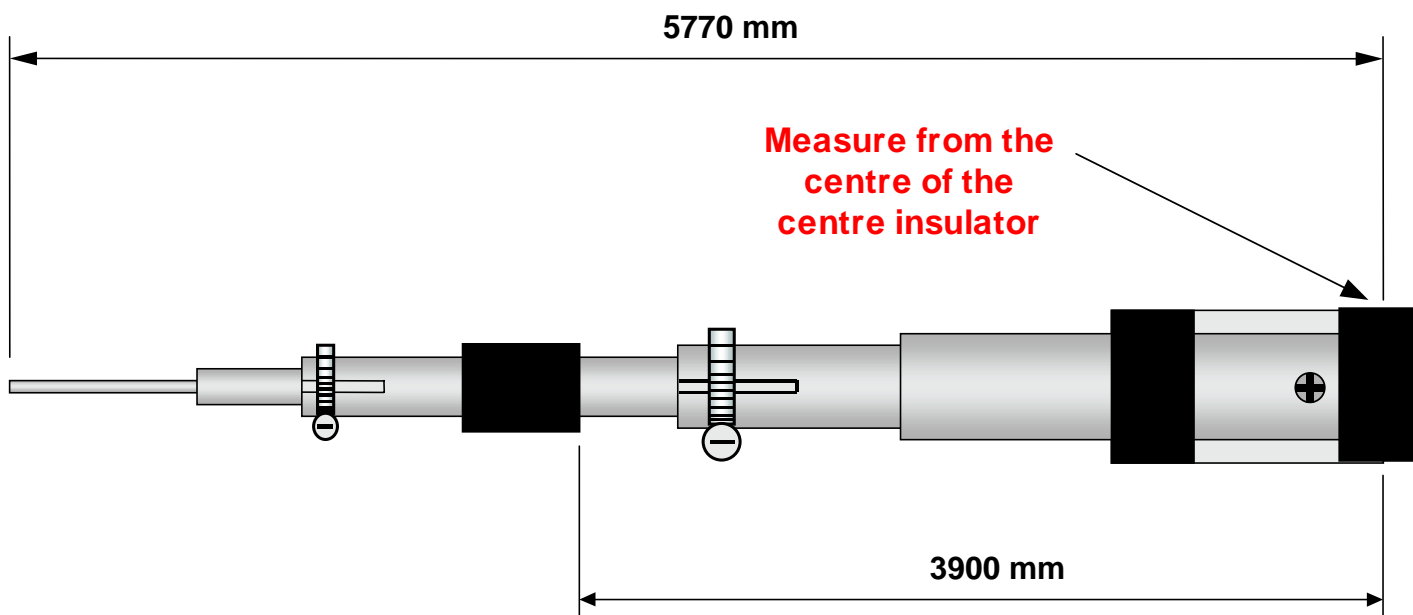

Figure 2 – Dimensions for Tuning
Carefully measure the length of each side of the antenna and adjust until the total length from the outermost insulating block to the tip of the antenna is 5.77m. Refer to Figure 2 – Dimensions for Tuning for guidance. Check that each hose clamps have been securely tightened.
Perform a final check of the lengths of the elements shown in Figure 2 – Dimensions for Tuning. Note that the dimensions stated in this document are for an installation height of 10m or greater. If the antenna is mounted less than ten (10)m high then the dimensions shown will have to be reduced. This antenna is not designed to be installed at heights less than 10m.
Since the WARC bands are relatively narrow the TZ-RD-1740 should normally be tuned for operation on the particular 40m band segment of interest. It is unlikely that the 17m VSWR will be greater than 2.0:1 when the 40m resonance is within the region 7.0 – 7.25 MHz. Refer to the dimensions given in Figure 2 – Dimensions for Tuning.
The electrical length of this antenna varies with the height above ground. The higher the antenna, the longer the elements are required to be. At heights greater than 15m the effective length of the element will remain relatively unchanged. The length given in Figure 2 – Dimensions for Tuning is suitable for mounting the antenna in the clear at least 15m above ground.